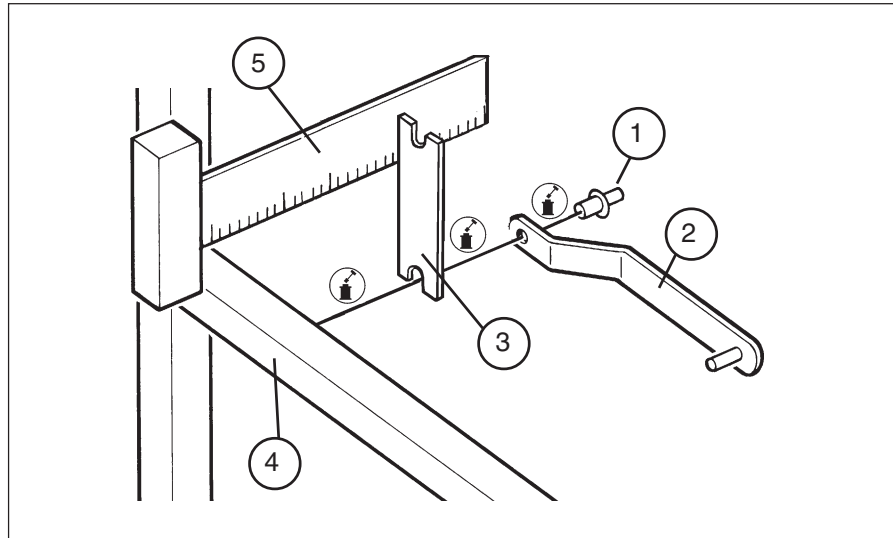
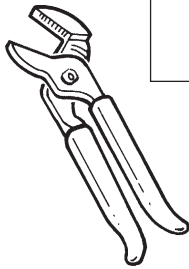

Figure 29: Installing Tray Spacers
Figure 30: Water Pump or Channel-lock Pliers
Step 27: When all points of interference are corrected, install two tray spacers (Item 2) using drive rivets (Item 1) as in Figure 29. Water pump pliers (Channel-lock pliers) work well for this purpose (Figure 30). Apply a small amount of anti-seize compound between Items 1, 2 and 3. Install the tray spacers so that they point in the same direction.
Step 28: Square the front rail spacers to the side frames (Figure 29). The front rail spacers must be square with the front of the side frames otherwise the tray spacers may pull out of the hanging bars during turning. Check the columns of egg tray frames for smooth easy turning. Correct all points of interference before connecting the drive bar.